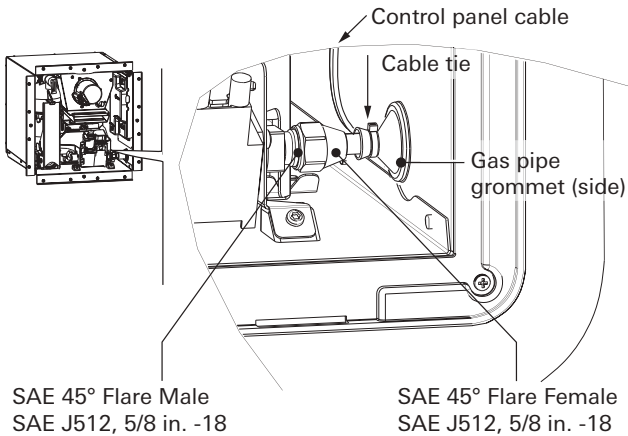

Fig. 27
- Close the cable tie so that the gas pipe grommet (side) tightens the gas pipe passage (see Fig. 27).